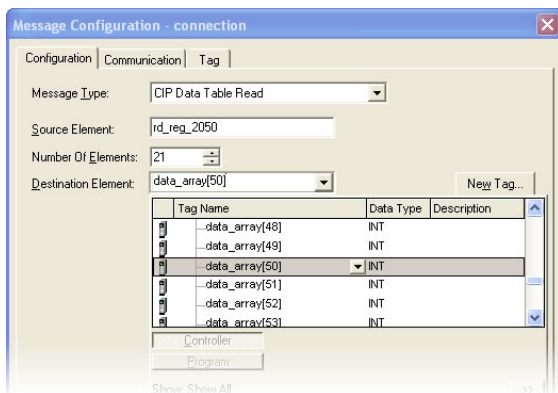

Figure 106: Selecting the Destination Element
- iv) For the Destination Element, either directly type "data_array[50]", or select element #50 in the data_array tag via the drop-down box (refer to Figure 106). The destination could be any offset in the data_array tag, as long as the offset plus the Number Of Elements (21) does not exceed the tag's defined size (73).